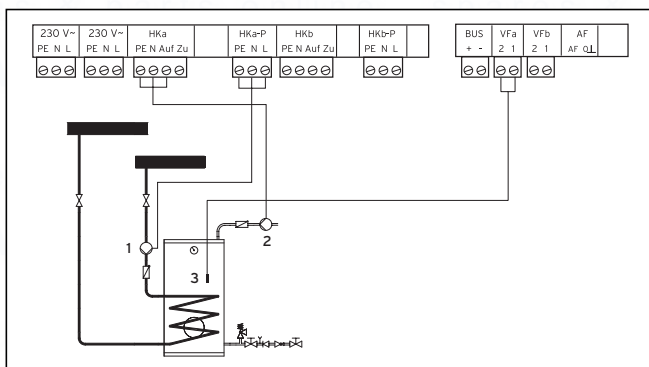

Fig. 5.3 Connecting a mixer circuit as a cylinder charging circuit
- Wire the mixer circuits as shown in Fig. 5.3.